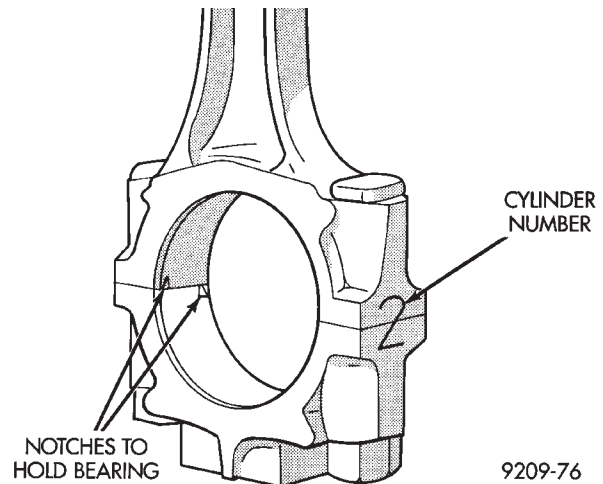

Fig. 86 Connecting Rod and Cap
(9) Check alignment marks made during disassembly and that bearing position notches new or used are on the same side as shown in (Fig. 86).